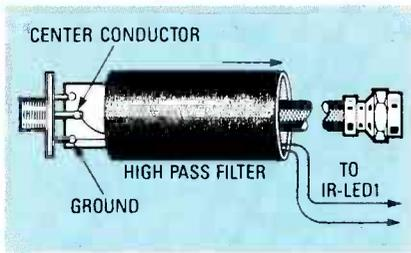

FIG. 6—A RADIO SHACK HIGH-PASS FILTER (PN 15-579) can be used for the first filter if you don't want to make your own.
For programming, the I/O addresses for the devices on the prototyping telephone are shown in Table 1. Additional access time is required during the access of the AM79C30A's internal registers. Therefore, IC2, shown in Fig. 6, is required to insert one wait state during those accesses.
**FIG. 6—IC2 PROVIDES THE ADDITIONAL ACCESS TIME** required during the access of the AM79C30A's internal registers by inserting one wait state during those accesses.
The first filter, located after the last output stage, can be constructed in two ways: The first way—and also the easiest—is to purchase a Radio Shack high-pass filter (PN 15-579). Remove the rubber gromet and slide back the case, as shown in Fig. 6. Take a 4- to 5-foot length of small-gauge two-conductor speaker wire or zip cord, and scrape away enough potting material
at the filter's F connector to attach one wire to the center pin and the other to the ground side (see Fig. 6). Run the